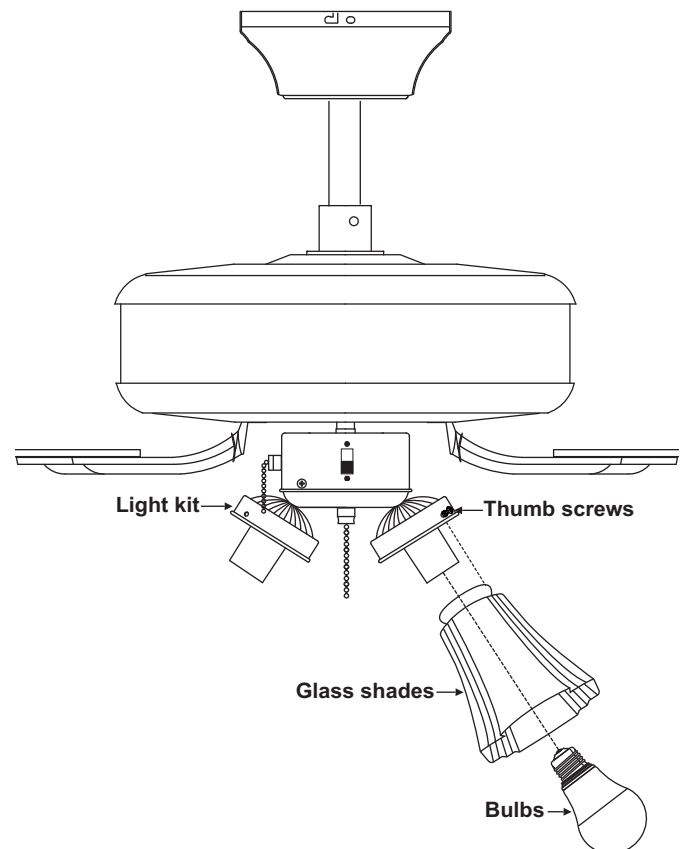

Figure 17
1. Mount the glass shades to the light fixture by partially unscrewing the thumb screws on the glass holder, insert the glass, then gently tighten the thumb screws by hand evenly to the glass. DO NOT OVER TIGHTEN. (Fig. 17)
2. Install 9W LED bulbs (included). (Fig. 17)